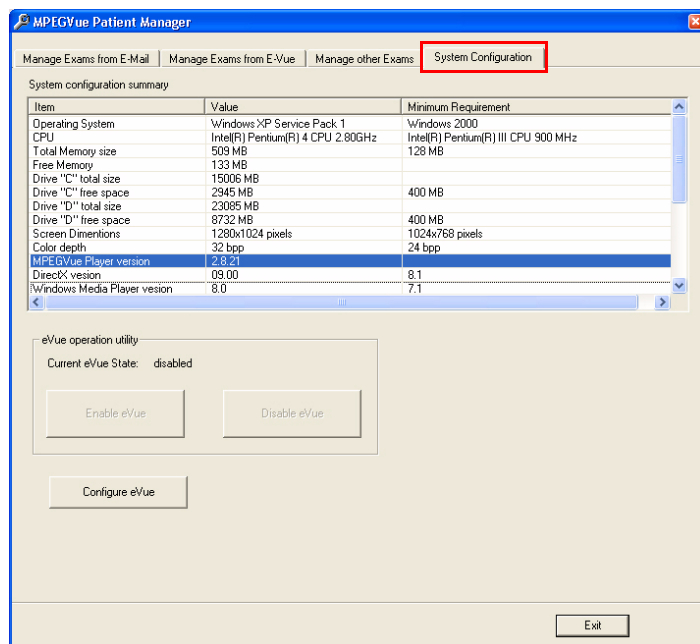

Figure 3-193 MPEGVue Patient Manager Window - System Configuration Tab
- a.) Make sure the System Configuration tab is activated as shown in Figure 3-193.